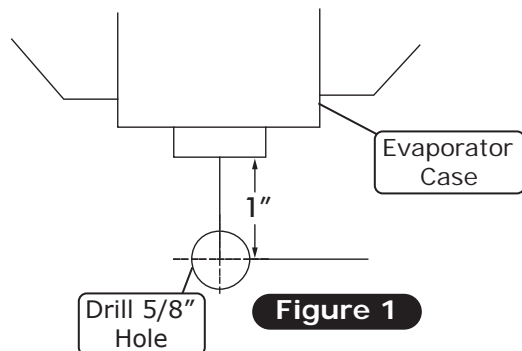

Figure 1
2. In line with the drain, lightly make a mark on the firewall. Measure 1" down. Drill a 5/8" hole through the firewall (See Figure 1, below).